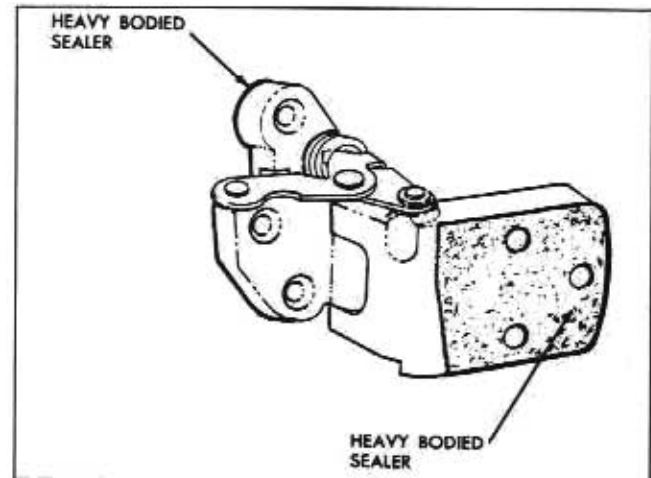

Fig. 10A-43 Rear Door Hinge
2. Apply a coat of heavy-bodied sealer to attaching surfaces of hinge straps or corresponding surfaces of door or body (Fig. 10A-43).